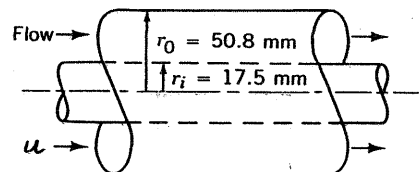

FIGURE P5.18
5.18 Air flows steadily in the axial direction in an annulus as indicated in Fig. P5.18. The inner and outer radii of the annulus are 17.5 and 50.8 mm. Axial velocities measured at various radii are listed below. Determine the mass flowrate involved.